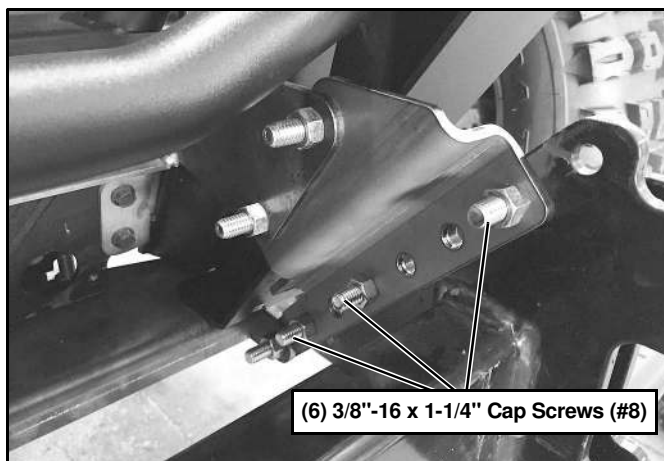

Figure 10
16. Secure UTV Mount (#1) with (6) 3/8"-16 x 1-1/4" Cap Screws (#8) and (6) 3/8"-16 Lock Nuts (#9). (See Figure 10.)